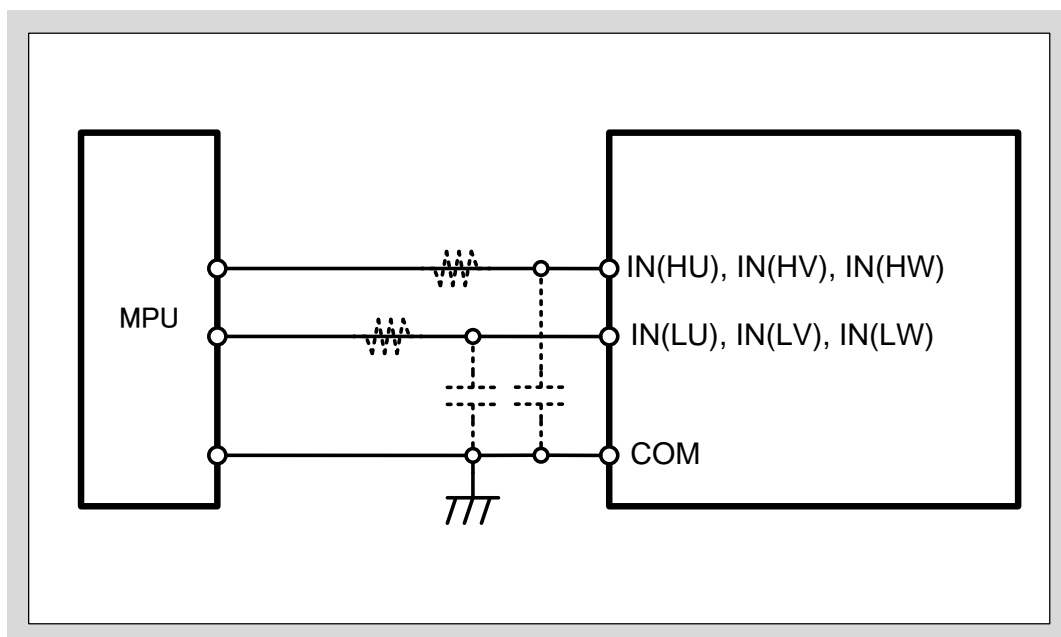
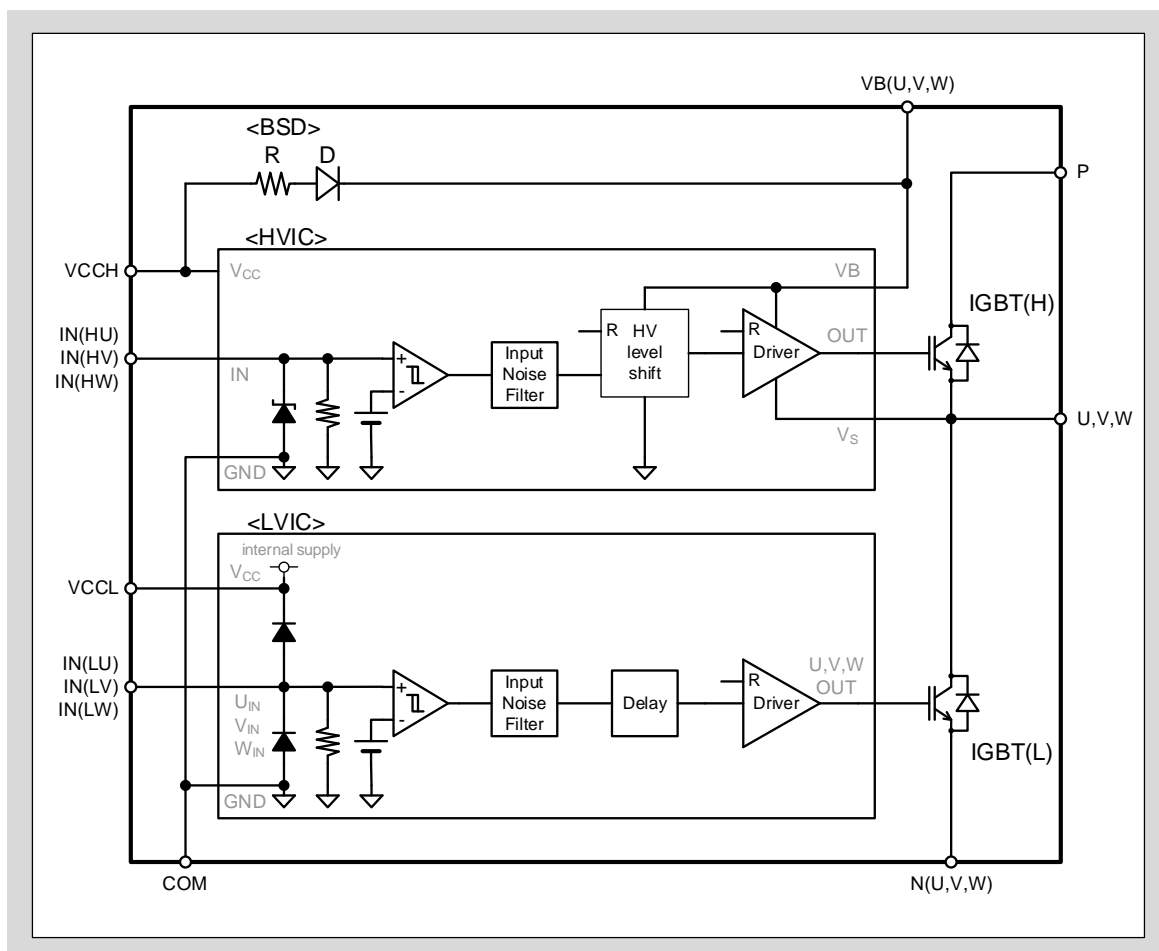

Fig.3-15 Recommended MPU I/O Interface Circuit of IN(HU,HV,HW), IN(LU,LV,LW) terminals
Fig.3-16 Input terminals IN(HU, HV, HW), IN(LU, LV, LW) circuit
- Fig.3-15 shows the input interface circuit between the MPU and the product. It is possible that the input terminals connect directly to the MPU. It should not need the external pull up and down resistors connected to the input terminals, input logic is active high and the pull down resistors are built in.
- The RC coupling at each input (parts shown dotted in Fig.3-15) might change depending on the PWM control scheme used in the application and the wiring impedance of the application's PCB layout.
- The input logic of this product is active high. This logic has removed the sequence restriction between the control power supply and the input signal during startup or shut down operation. Therefore it makes the system fail safe. In addition, pull-down resistors are built into each input terminals in Fig.3-16. Thus, external pull-down resistors are not needed and reduces the number of system components. Furthermore, by setting the input threshold voltage low, a 3.3V-class MPU can be connected directly.
- As shown in Fig.3-16, the input circuit integrates a pull-down resistor. Therefore, when using an external filtering resistor between the MPU output and input of the product, please consider the signal voltage drop at the input terminals to satisfy the turn-on threshold voltage requirement. For instance, $R=100\Omega$ and $C=1000pF$ for the parts shown dotted in Fig.3-15.
- Fig.3-16 shows that the internal diodes are connected to the VCCL-IN(LU, LV, LW) and IN(HU, HV, HW, LU, LV, LW)-COM terminals. Do not use these diodes for voltage clamp purpose otherwise the product might be damaged.